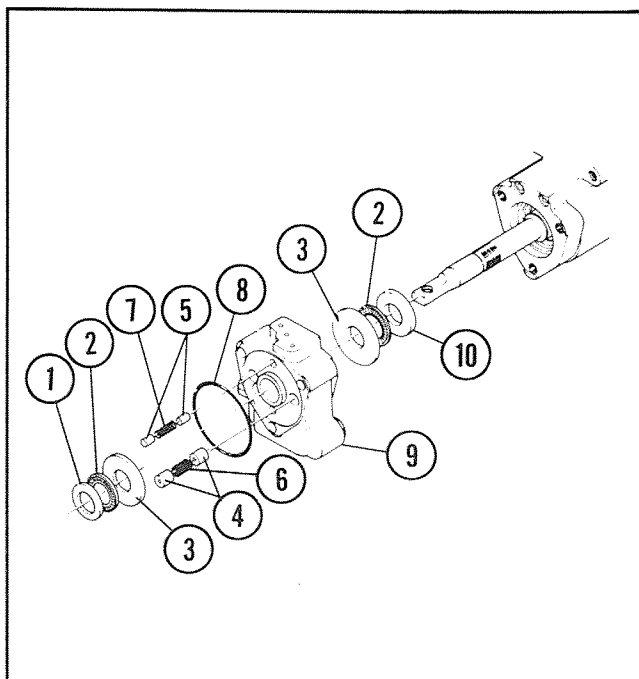

**Figure 32**
6. Straighten the washer tab with a screwdriver and remove the nut, Figure 32.